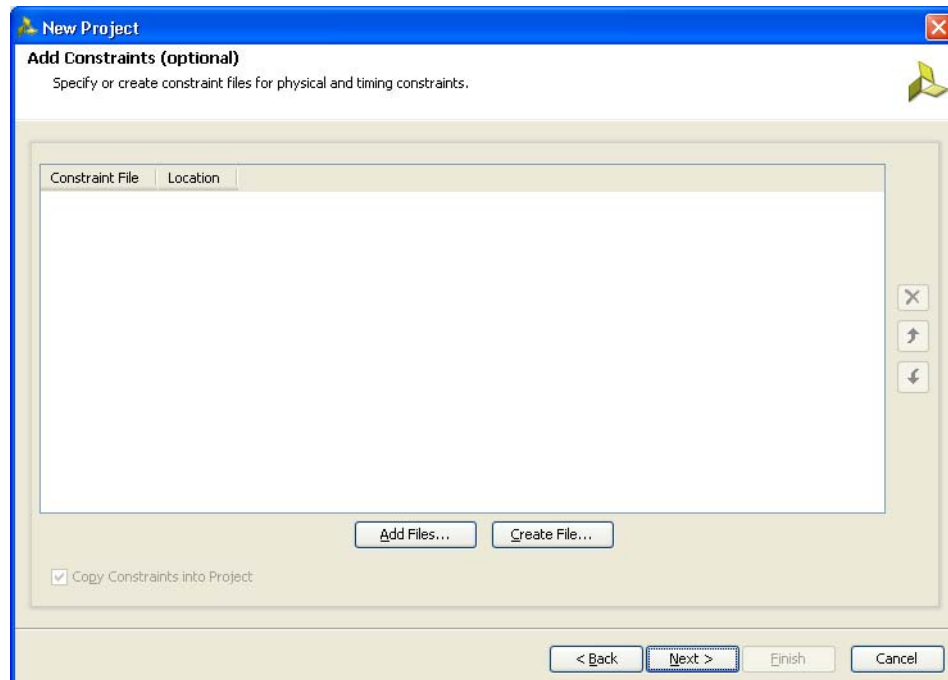

Figure 1-7: Add Constraints (Optional)
7. Click **Next** to open the **Add Constraints (Optional)** page (Figure 1-7). If the constraints file exists in the repository, it can be added to the project. Proceed to the next page if the constraints file does not exist.